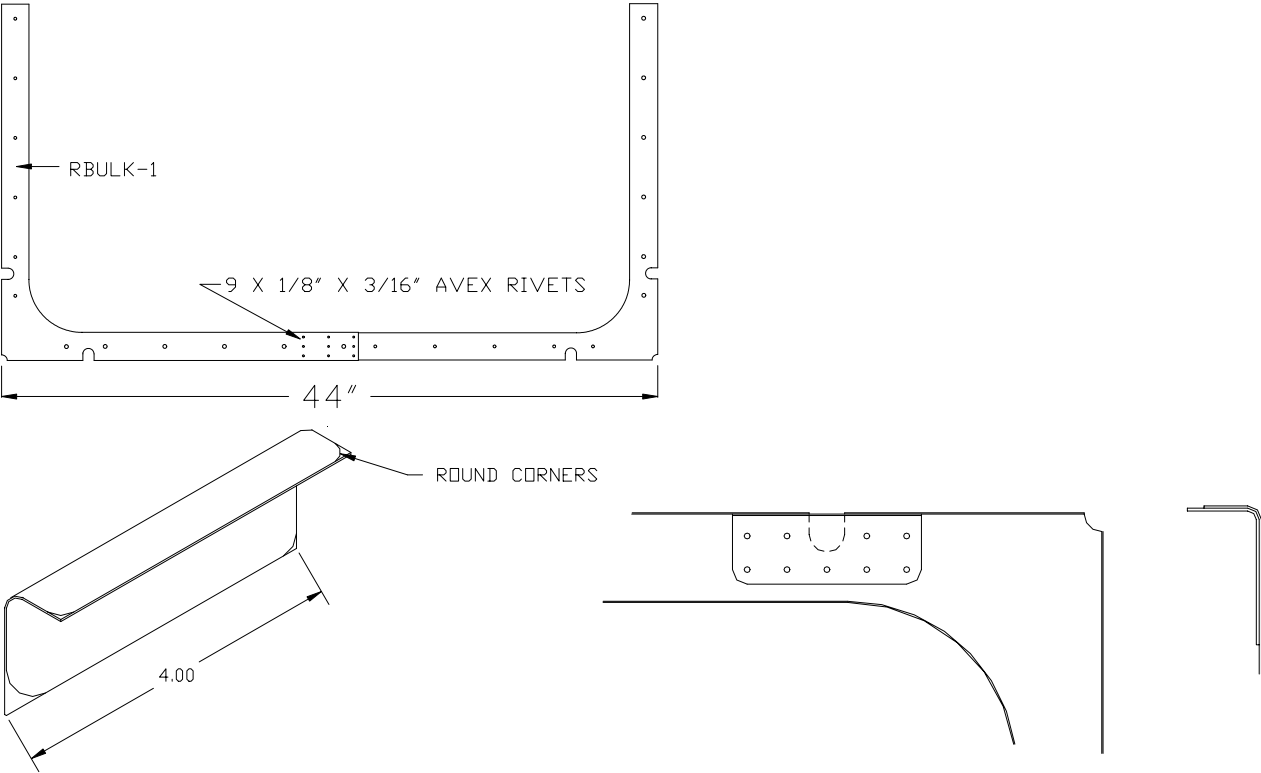

Figure 9.8.4
8) Prepare three more R-BULK 1 Assemblies. Cut angles from ST-40, position and rivet in place. Fig.9.8.4.